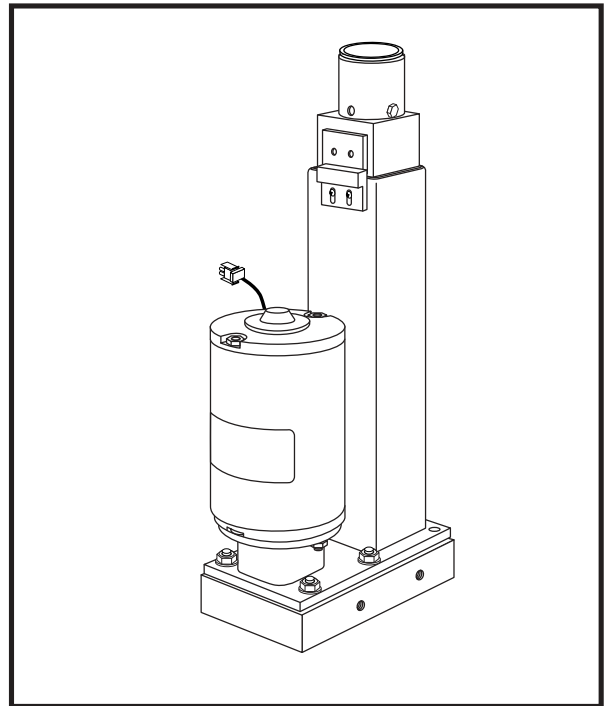

Figure 11. Power Seat Actuator
1. Align the seat post on the seat base to the hole in the actuator. See figure 11.